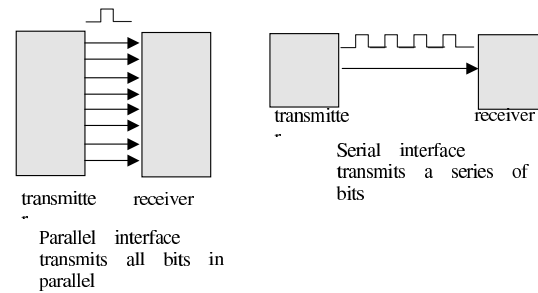

FIGURE 3. Difference between parallel and serial interfaces
3.1. What is a serial interface? A *serial interface* is a communication interface between two digital systems that transmits data as a *series* of voltage pulses down a wire. A "1" is represented by a high logical voltage and a "0" is represented by a low logical voltage. Essentially, the serial interface encodes the bits of a binary number by their "temporal" location on a wire rather than their "spatial" location within a set of wires. Encoding data bits by their "spatial" location is referred to as a *parallel interface* and encoding bits by their "temporal" location is referred to as a *serial interface*. Figure 3 graphically illustrates the difference between these two communication methods.